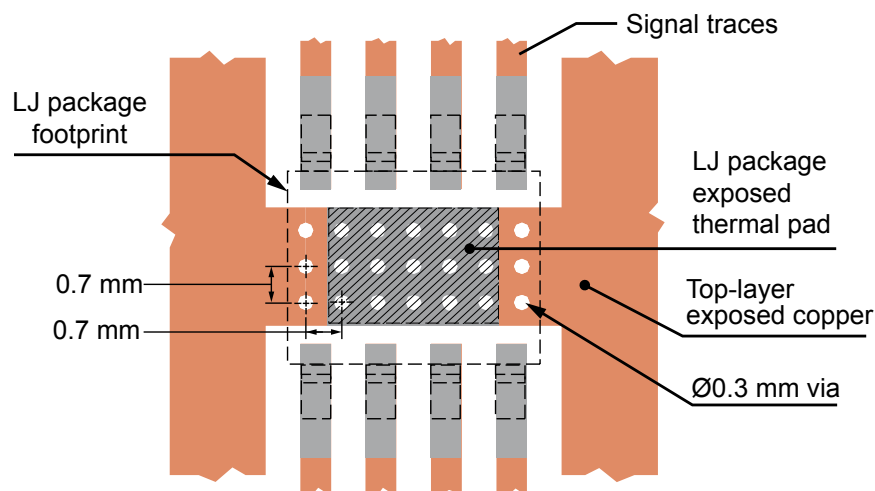

Figure 22: Suggested PCB layout for thermal optimization (maximum available bottom-layer copper recommended)
- The greater the quantity of thermal vias, the better the dissipation. If the expense of vias is a concern, studies have shown that concentrating the vias directly under the device in a tight pattern, as shown in Figure 22, has the greatest effect.